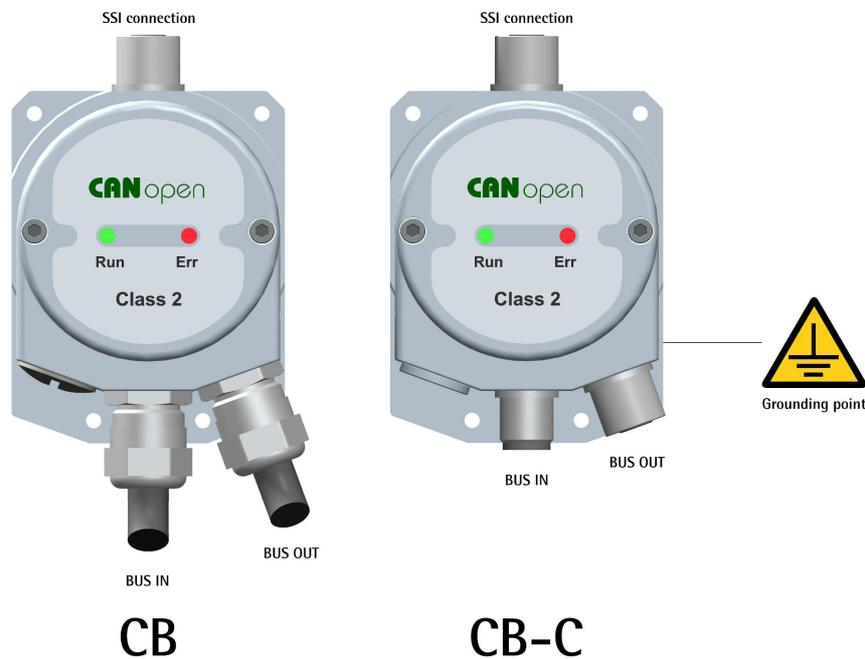
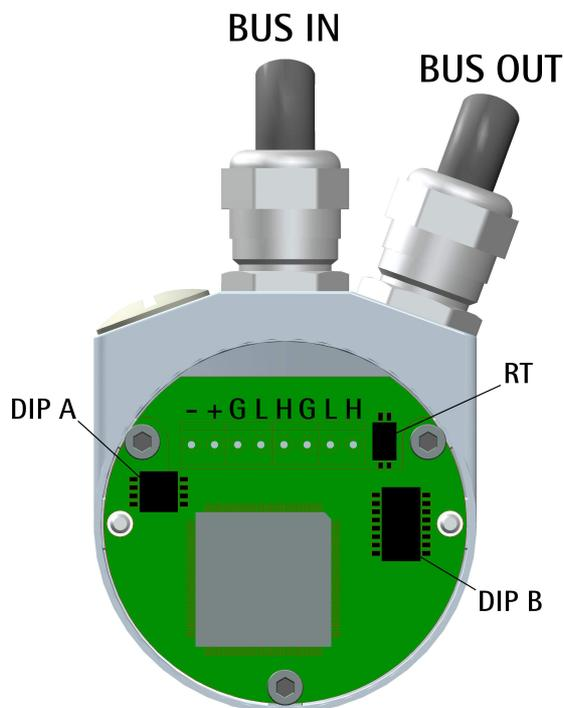
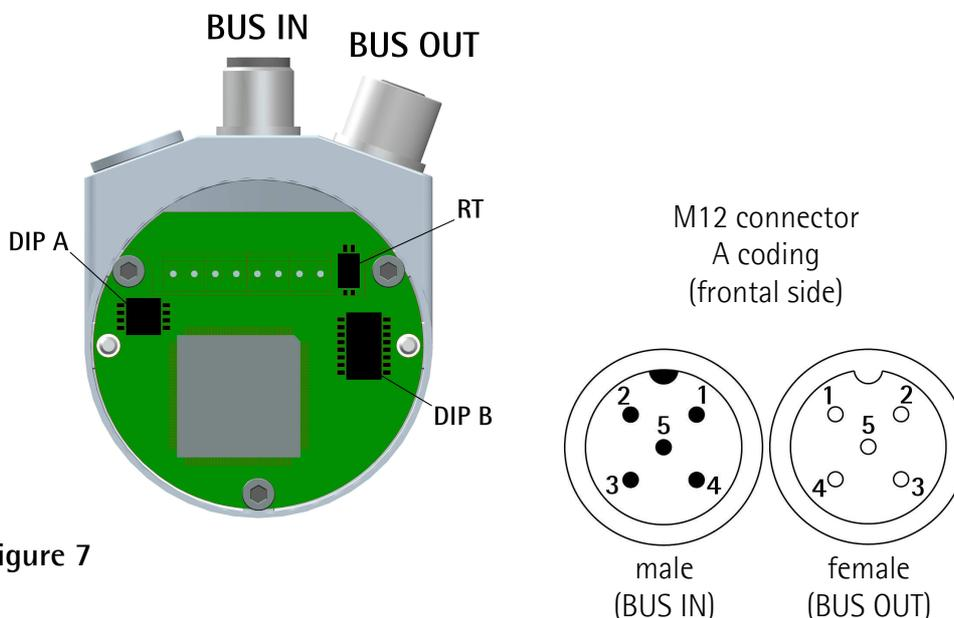

Figure 4
Figure 6
Figure 7
4.2 SSI connection (Figure 4)
4.3 CANopen converter with PGs: CB version (Figure 4 and Figure 6)
4.4 CANopen converter with M12 connectors: CB-C version (Figure 4 and Figure 7)
4.5 Ground connection (Figure 4)
Minimize noise by connecting the shield and/or the connector housing and/or the enclosure to ground. Make sure that ground is not affected by noise. The connection point to ground can be situated both on the device side and on user's side. The best solution to minimize the interference must be carried out by the user. You are advised to provide the ground connection as close as possible to the unit. We suggest using the ground point provided in the connection cap (see the Figure 4, use one TCEI M3 x 6 cylindrical head screw with two tooth lock washers).
4.8 Baud rate: DIP A (Figure 6 and Figure 7)
4.9 Node number: DIP B (Figure 6 and Figure 7)
4.10 RT Bus termination (Figure 6 and Figure 7)